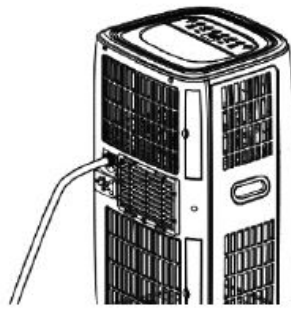

Fig. 2
2. Attach the connection at the opposite end of the hose to the outlet on the back of the appliance by plugging it in and turning it to lock it in place (Fig. 2).